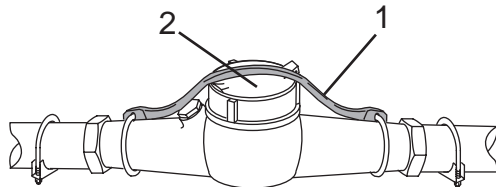

Figure 88
1. Slide the retaining strap (Figure 88 Item 1) to one side and open the cover (Figure 88, Item 2).
4. Close the cover (Figure 88, Item 2) and secure using the retaining strap (Figure 88, Item 1).